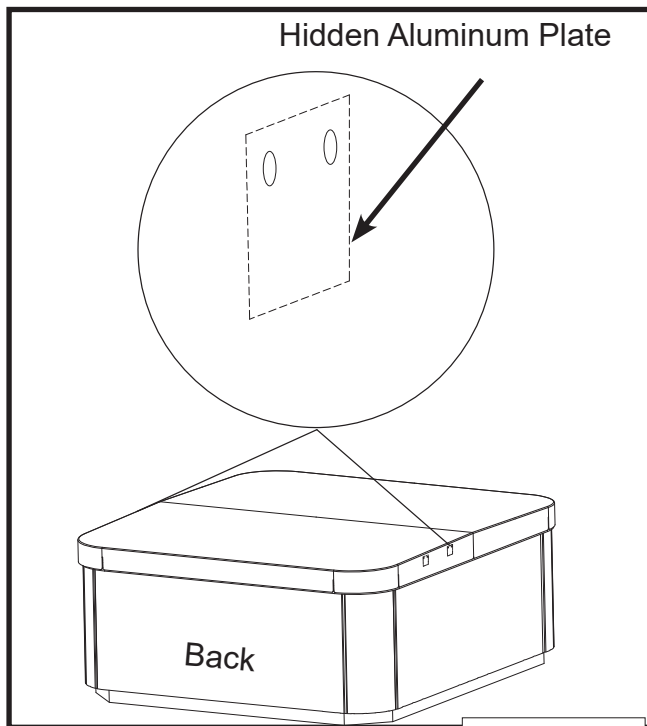
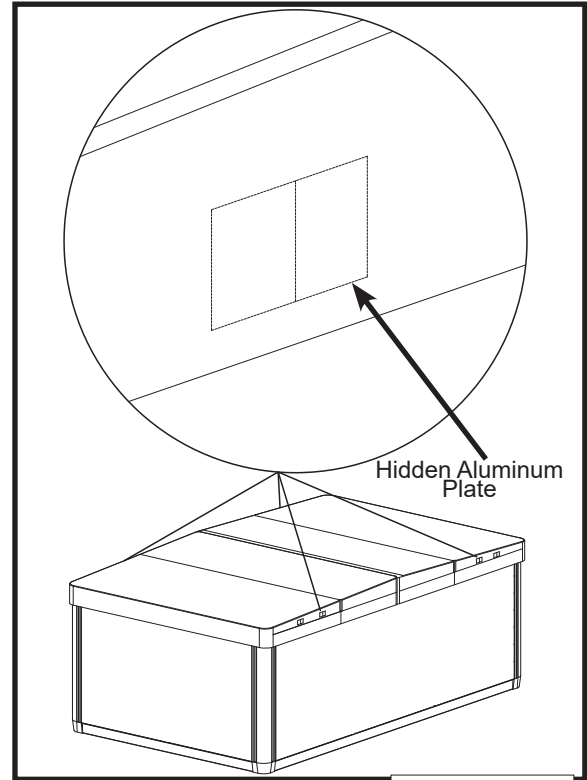

Figure 1.6
Figure 1.7
- 1a. Watkins covers have 4 aluminum plates installed into the foam core hidden beneath the vinyl on the sides of the cover. There are two on each side of the cover set (Figure 1.6). Use the Aluminum Plates that are located close to the center of spa.
- 1b. EP models use two covers sets. There are two aluminum plates on each side of the cover set (Figure 1.7). Use the Aluminum Plates that are located close to center the cover set (Figure 1.7).
2. Using your finger to locate the aluminum plate illustrated by a square, ((Figure 1.6) for spas and (Figure 1.7) for Endless Pools), mark the line in between the two pre-drilled holes behind the vinyl for later reference.